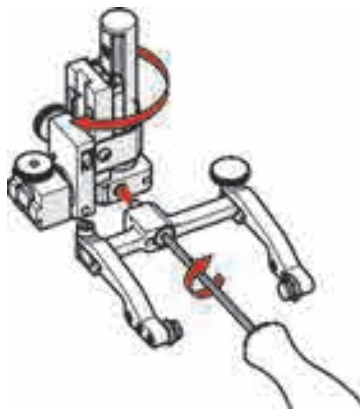

Figure 4-70 Screw yoke to opposite side
6. Mount the yoke to the opposite side of the base using the supplied 3 mm hex driver (see Figure 4-70 on page 146).